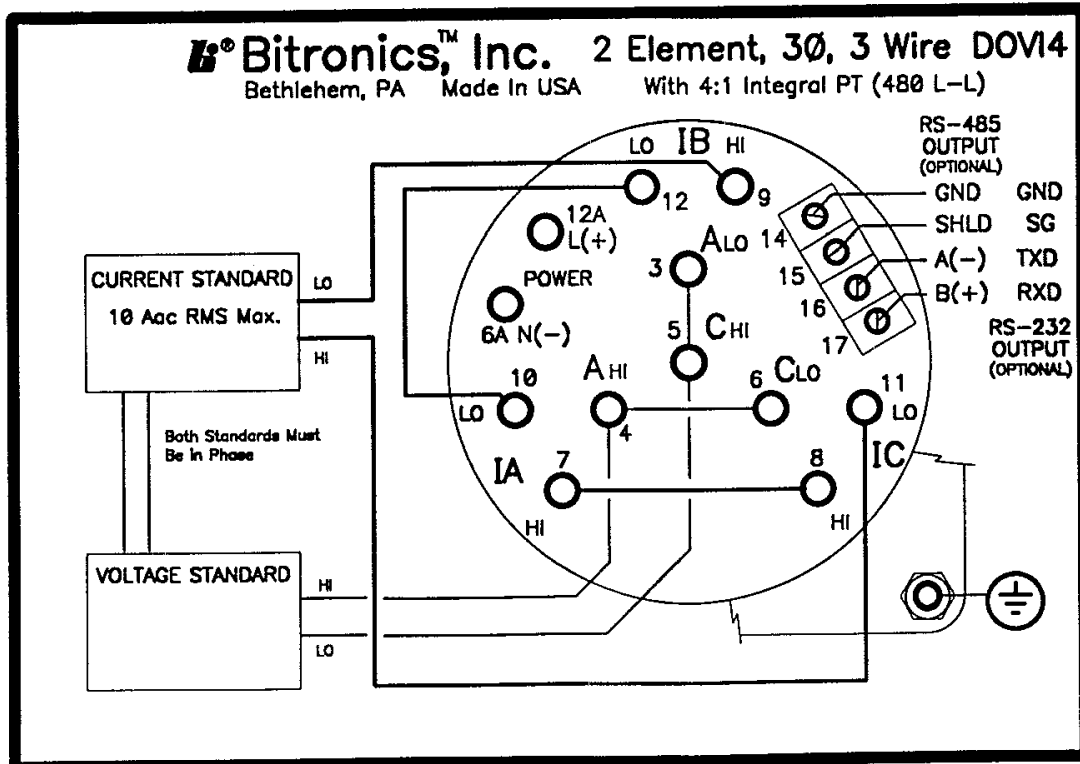

Figure 7 - Typical connection diagram for 2-Element MTWIEC2B in single phase calibration mode
4. With the meter powered, AND WITH A PRECISION KNOWN INPUT, rotate the screw clockwise to increase the measurement, or counter-clockwise to decrease the indicated measurement. NOTE: Because these Multifunction meters are a full 3 elements, the instrument can be calibrated with a single phase source, all current inputs should be connected in series, and all potential inputs should be connected in parallel. When MTWIEC2B/5B meters are connected with a single phase source they should be connected as shown in Figures 7 & 9. The Neutral (Residual) Current (MTWIEC1B/4B only) is the sum of the three phase currents. In a single phase configuration the currents will all add in phase, therefore the currents should be kept below 5A ac if all three phases are energized with a single phase source. These restrictions are only for single phase testing.